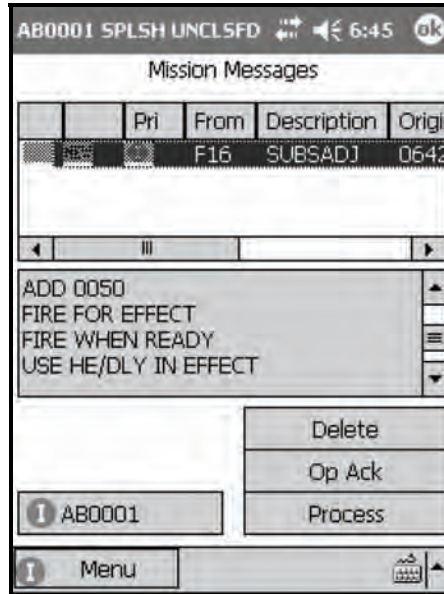

Figure 18-31. Digital Fire Mission: final adjustment.
- (35) Record all information from the Solution/Gun Orders screen on DA Form 2399-R.
- (36) Select the <Target> control button.
- (37) The Target screen displays.
- (38) Select Msn Status.
- (39) Select Shot to transmit the shot to the FO.
- (40) Select OK when the shot confirmation call box appears.
- (41) The Send Status screen displays.
- (42) Confirm the information displayed.
- (43) Select the Close control button.
- (44) Continue to process the mission as described in the steps above.
- (45) When the FO transmits the final adjustment (Figure 18-31) and requests an FFE, review and record the message.
- (46) Select Process.